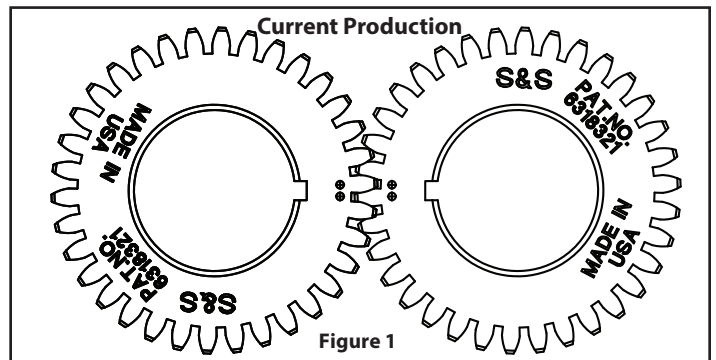
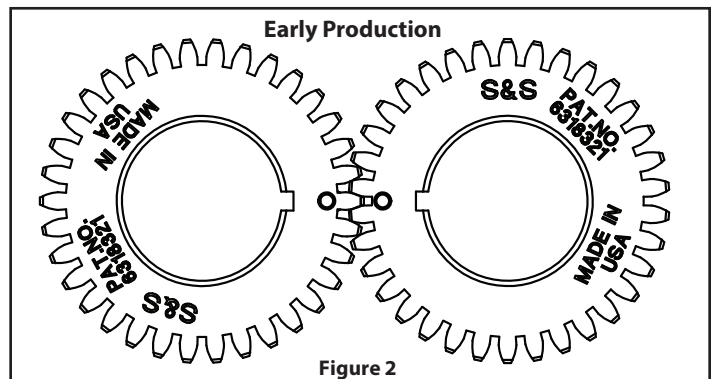

Figure 1
Figure 2
7. Slide the rear cam into place aligning the timing marks on the back of the cam gears. See **Figures 1 and 2.**
*NOTE: Current production S&S Gear drive camshafts have timing marks shown in **Figure 1**. Older S&S gear drive camshafts, have the timing marks shown in **Figure 2**. Cams with early and late gear styles must not be used together.*